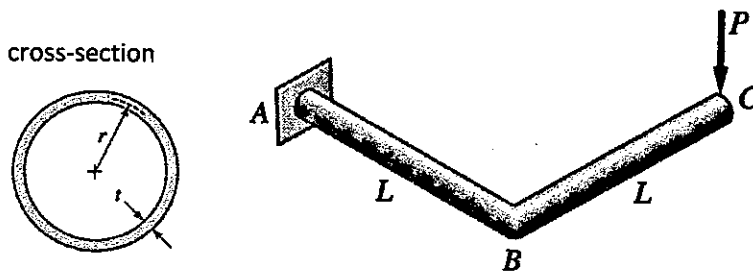

Fig. 1
1. For the bent thin-walled circular pipe ABC shown in Fig. 1, (a) draw the shear flow in the cross section located in pipe BC and indicate its variation. Also show that the maximum shear stress is equal to two times the average shear stress (10%); (b) Draw the shear flow in the cross section located in pipe AB and indicate its variation. Also find the maximum shear stress in pipe AB. (10%)